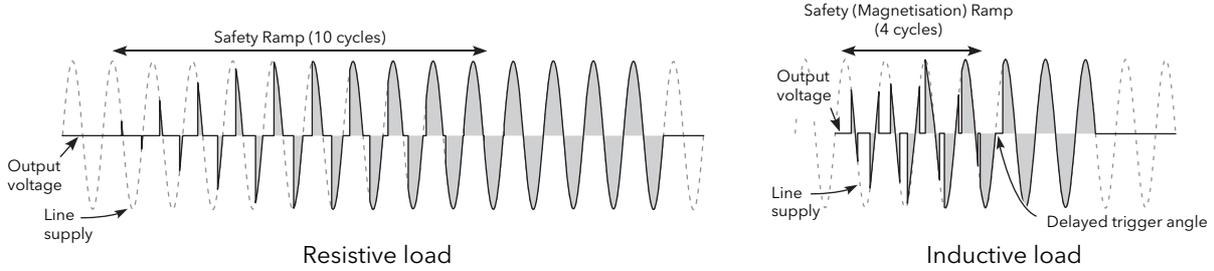

Figure 95 Safety ramp (burst firing) examples
- 'Safety Ramp'** Displays the startup ramp duration, in supply voltage cycles (0 to 255), to be applied at startup. The ramp is either a phase angle ramp from zero to the requested target phase angle or, for Burst Firing, ranges from 0 to 100%, see Figure 95. Safety Ramp is not applicable to Intelligent Half cycle (IHC) Mode.